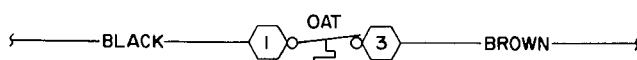

Fig. 20 — Wiring Connections for Outdoor-Air Thermostat
11. *Units with economizer only:* Place knob supplied with economizer on OAT. See Fig. 19. Set for 3° F below indoor room thermostat setting. If accessory enthalpy control (EC) is used in place of OAT, see instructions shipped with EC for installation and adjustment. See Fig. 19. Make wiring connections for OAT (see Fig. 20).